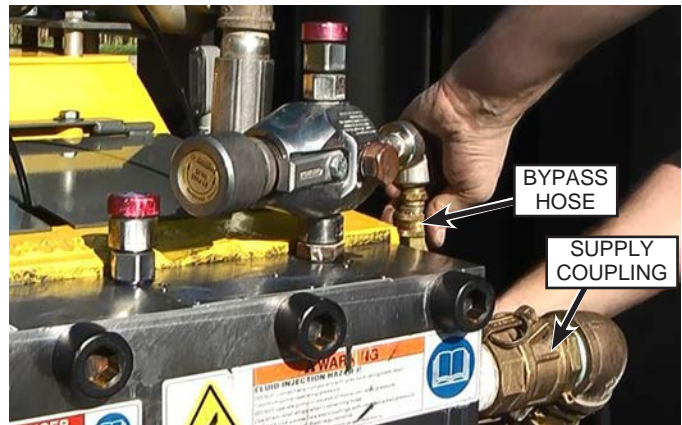

Fig. 88: Hose Connections
6. Connect the supply coupling (Fig. 88) and the bypass hose to the manifold.